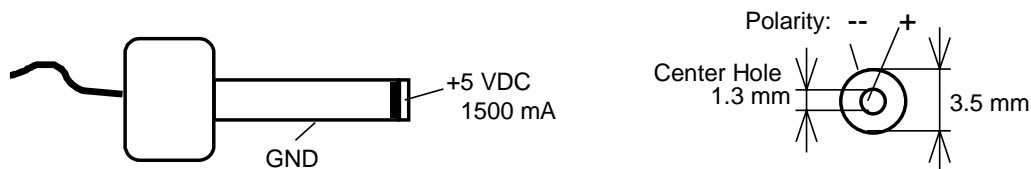

Figure 5: Power Connector
- Using the included power adapter, connect the power socket on the board (X1) to a power supply (refer to *Figure 5* for the correct polarity).